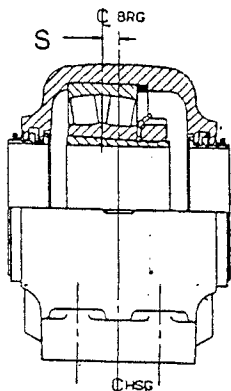

Figure 2
3. Install the bearing parts in the following sequence (refer to Figure 3). **NOTE:** bearing can only be correctly installed one way, refer to **Figure 2** on page 14.
- d. **Bearing:** make sure that the internal clearance has been written down. Install bearing on adapter sleeve, large end of tapered bore first. Locate bearing in proper position on shaft. Before tightening refer to **Figure 2** and Table 4 on page 14.
4. Remove any paint, dirt or burrs from the mating surfaces of the housing halves. Thoroughly clean seal grooves on both sides. Set lower half of housing on base with all four cap bolts in place and apply oil to the bearing seats. Apply grease to the seal grooves in the lower housing. **Be sure the housing is positioned as shown in Figure 2 view relative to adapter nut.**